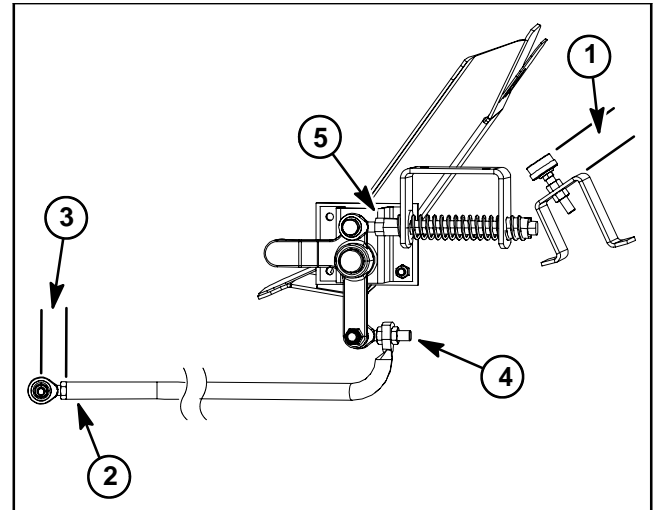

Figure 53
1. Traction pedal stop should be 1.500" (38 mm) above platform bracket (item 1 in Fig. 53). If necessary, loosen jam nuts and adjust stop location. Make sure that both jam nuts are tightened to secure adjustment.
2. On traction pump end of traction rod, rod end should be installed so that distance from end of traction rod to center of rod end is 1.140" (29 mm) (item 3 in Fig. 53). Tighten jam nut to secure rod end to traction rod.
3. On traction lever end of traction rod (item 4 in Fig. 53), jam nuts should position traction rod so traction pedal remains in the neutral detent position and is at an approximate 56° angle. Use a magnetic protractor to check pedal angle.
A. Make sure hydraulic oil is at normal operating temperature by operating the machine under load for approximately ten (10) minutes.
D. If necessary, adjust spring shaft (item 5 in Fig. 53) until neutral operation is correct.